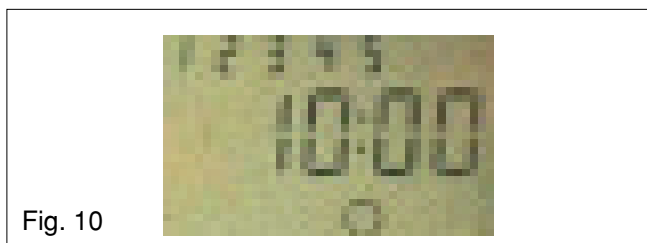

Fig. 10
- Press the Select button until the ☉ symbol is shown (see fig. 10).